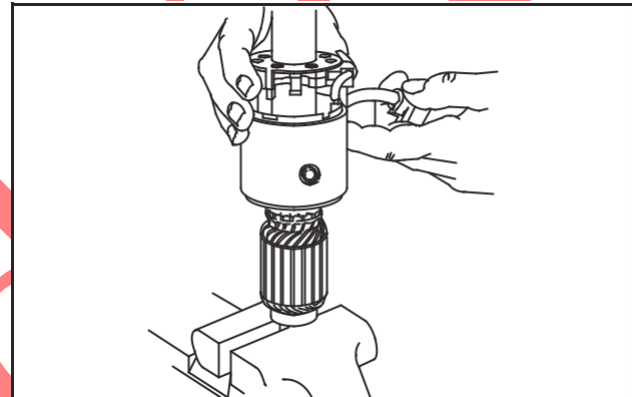

Fig. 75 – Assembling Motor Housing And Brushes
2. Using seal protector as a guide, slide motor housing with brush retainer into position, Fig. 75. Remove seal protector.